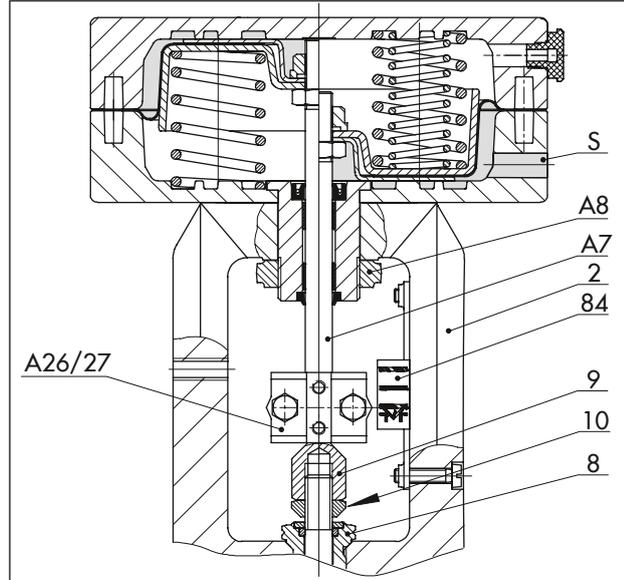

Fig. 12: Type 3271 Pneumatic Actuator on a Series 240 Valve
See Fig. 12
- ⇒ Connect the signal pressure to the bottom signal pressure connection (S). See Fig. 12. The signal pressure is routed to the bottom diaphragm chamber and moves the actuator stem (A7) upward opposing the spring force.